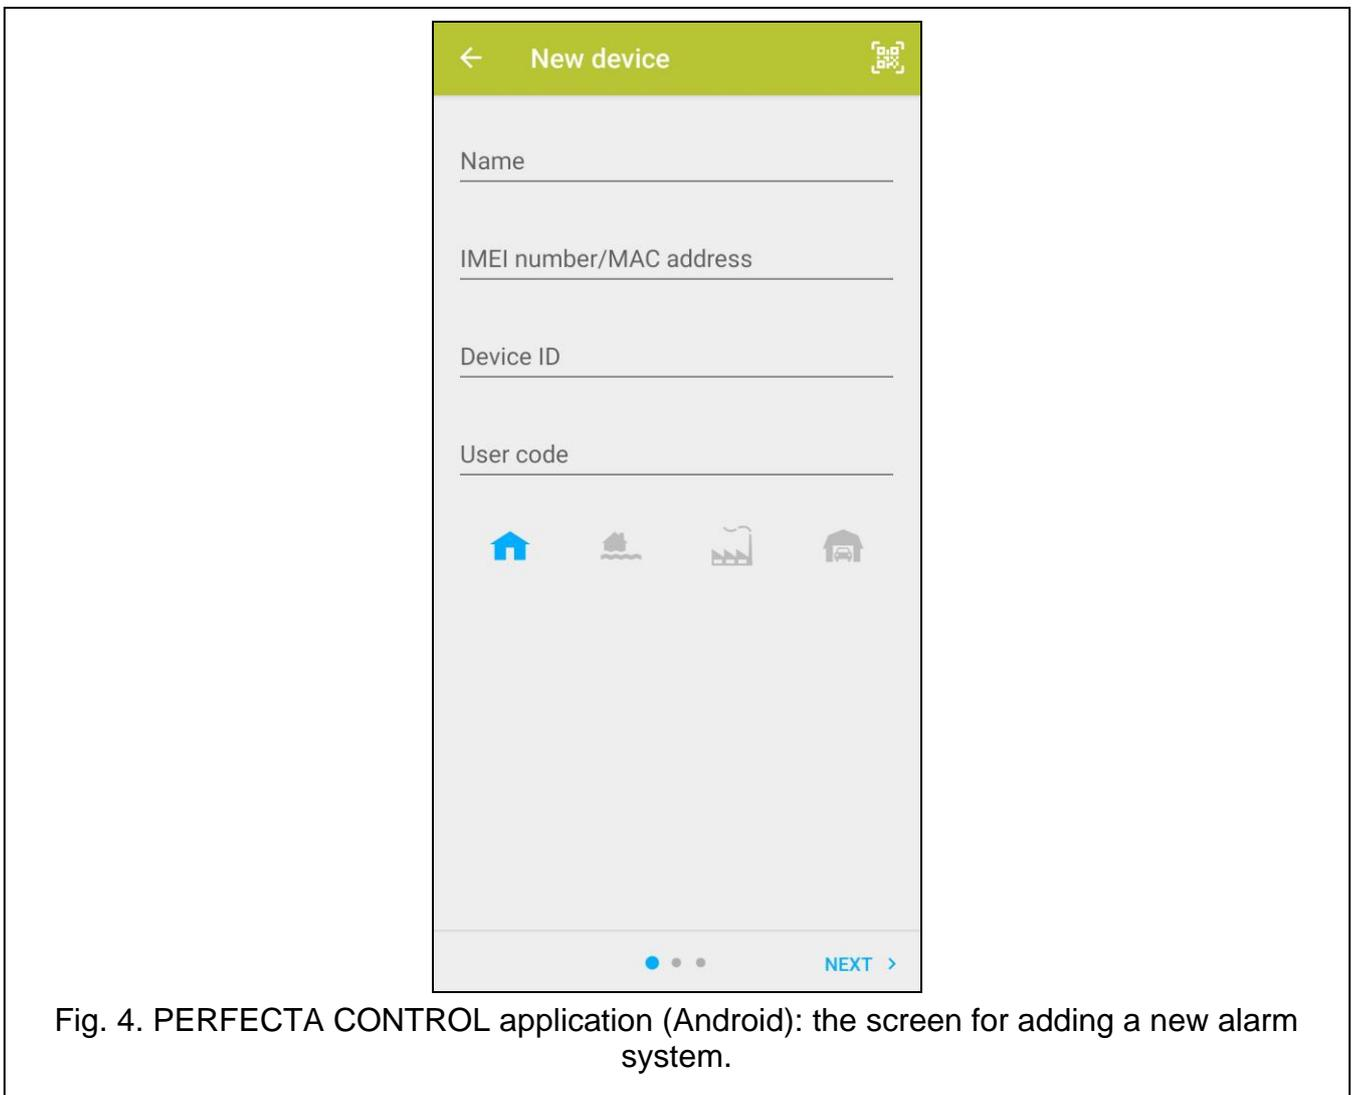

Fig. 4. PERFECTA CONTROL application (Android): the screen for adding a new alarm system.
3. The screen for adding a new alarm system will be displayed (Fig. 4).